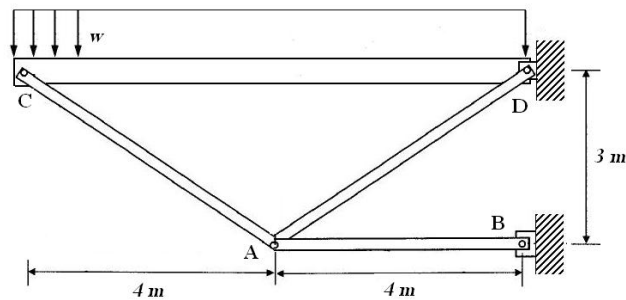

Figure Q1
1. A rigid beam supported by a truss pin-jointed structure, as shown in Figure Q1, is subjected to a uniformly distributed load  $w$  acting on the full length of the beam span